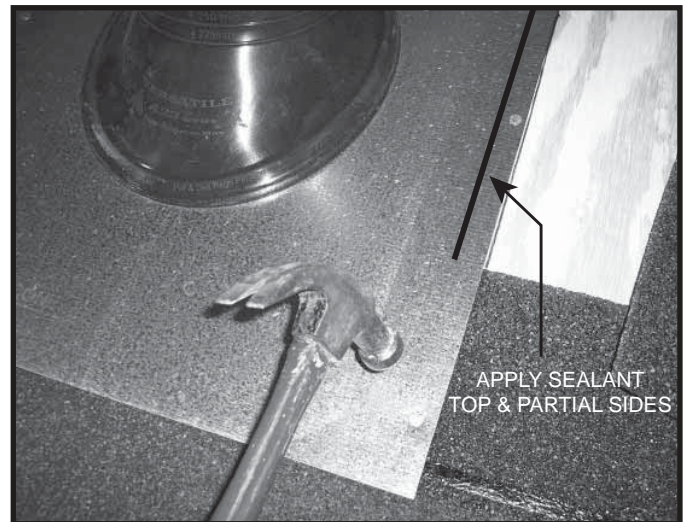
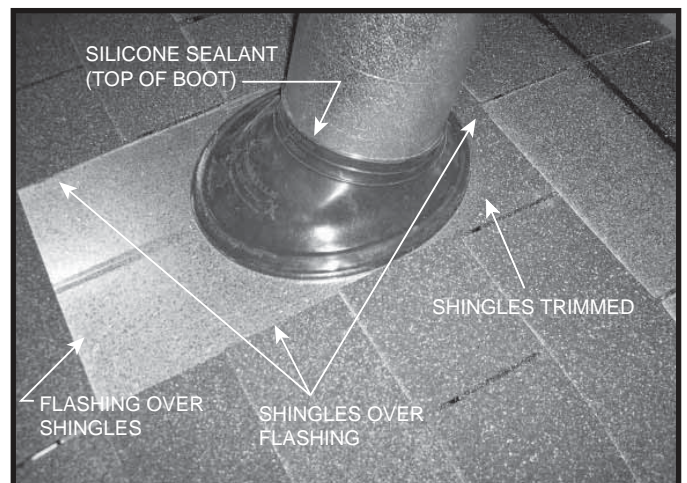

Figure 10.18 Slide Flashing Down, Secure & Apply Sealant
Figure 10.19 Installation Complete
- Apply silicone sealant on the top outside of the base plate on the sides and on top edge. See Figure 10.18. Install shingles, Apply sealant at the top edge of the rubber boot. See Figure 10.19.